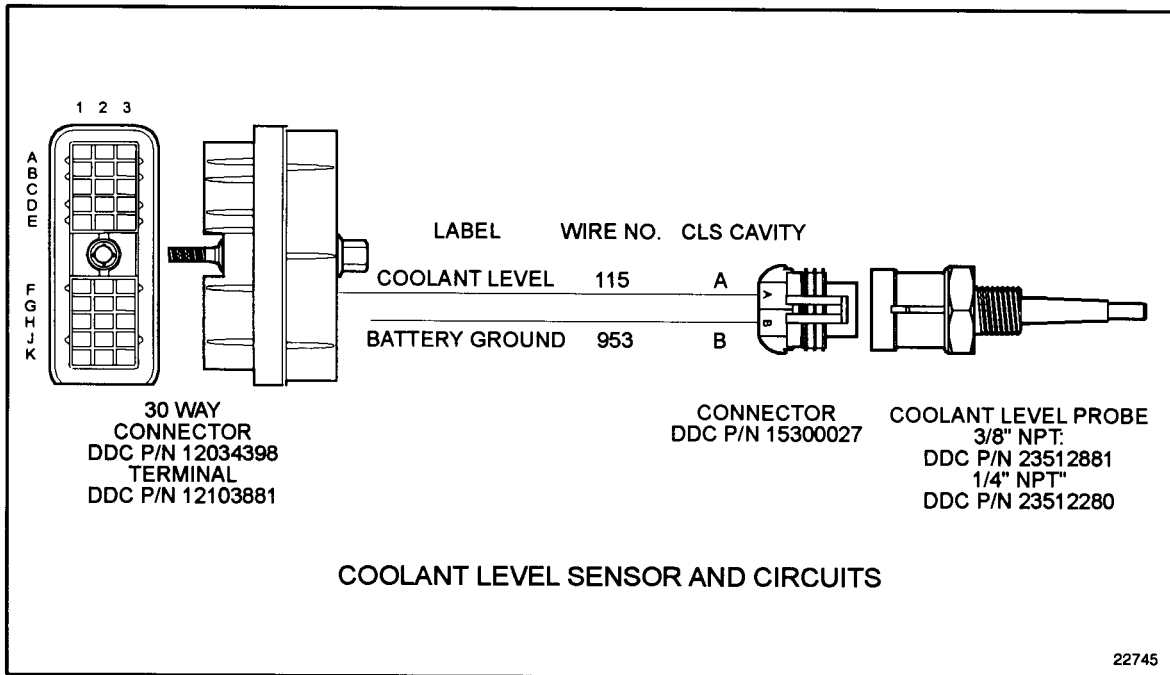

Figure 13-2 Coolant Level Sensor and Circuits
1. Inspect terminals at the CLS connector for bent, corroded and unseated pins or sockets. Ensure wires are not reversed at the CLS. See Figure 13-2.
3. Measure resistance between sockets A and B on the CLS harness connector. Also measure resistance between socket A and battery ground; and socket A and chassis ground. See Figure 13-2.